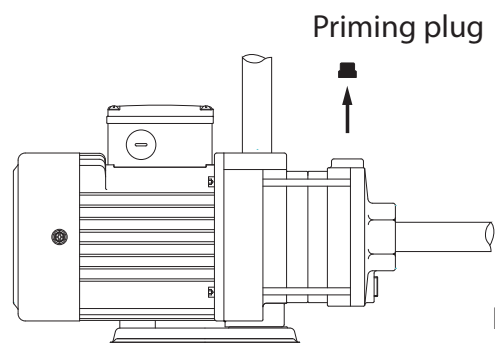

Fig. 1
5.3.1.2 Remove the priming plug, fig. 1.